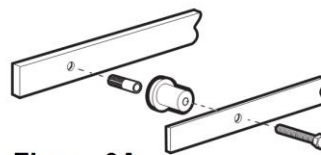

Figure 3A
Drill pilot hole. Insert lag bolt (X) through the first track hole, then place the track spacer (S) through the bolt on back of the track. Install the lag bolt with 1/2" socket ratchet. Do not tighten fully. Swing the track up and use the level to ensure the track is straight. Mark the remaining holes in the track. Drill remaining pilot holes. Slide the stopper (T) onto the track for the end of the track where you installed the first bolt so it is between the first and second holes on that end of the track. Install the next bolt and spacer at this end of the track. Install the remaining bolts and spacers. Go back and fully tighten the first bolt. Slide the remaining stopper onto the other end of the track. Do not set either stopper at this point. Refer to **Figures 3A, 3B & 3C**.